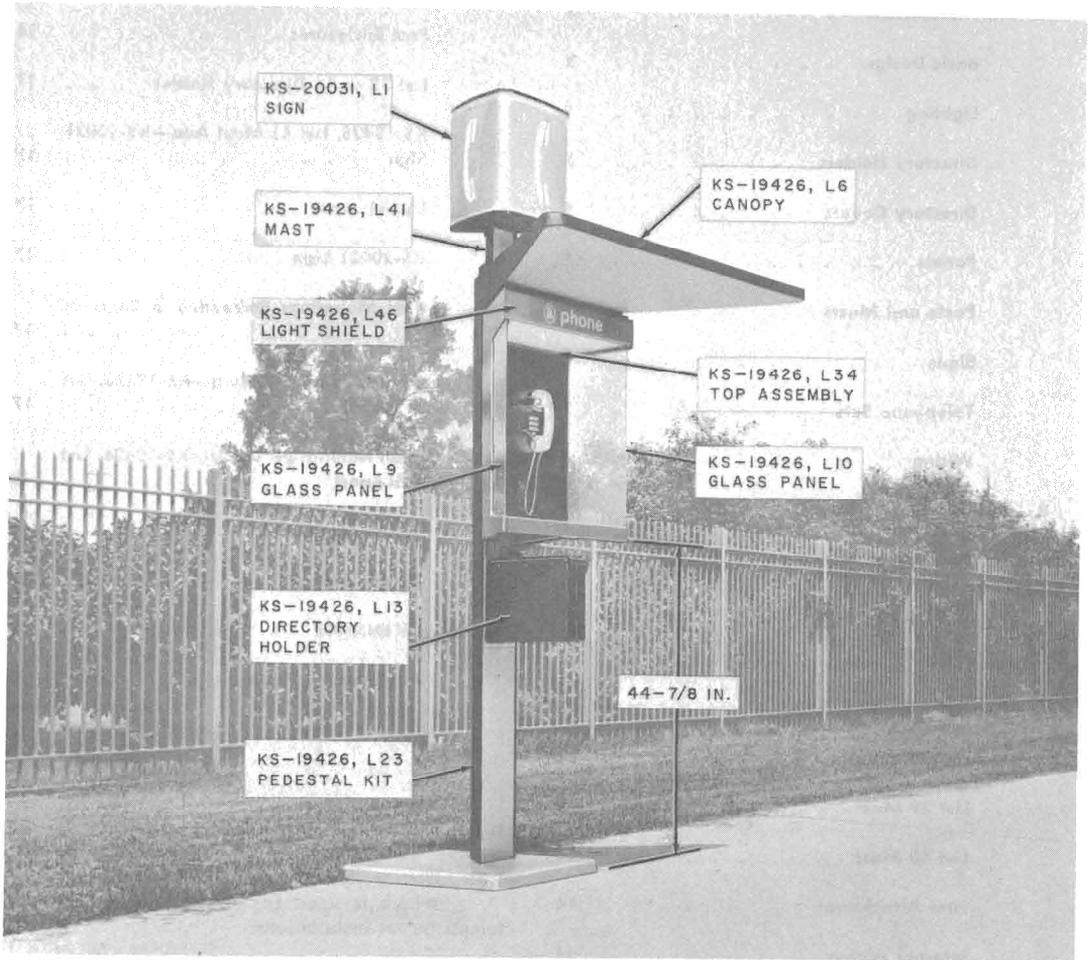
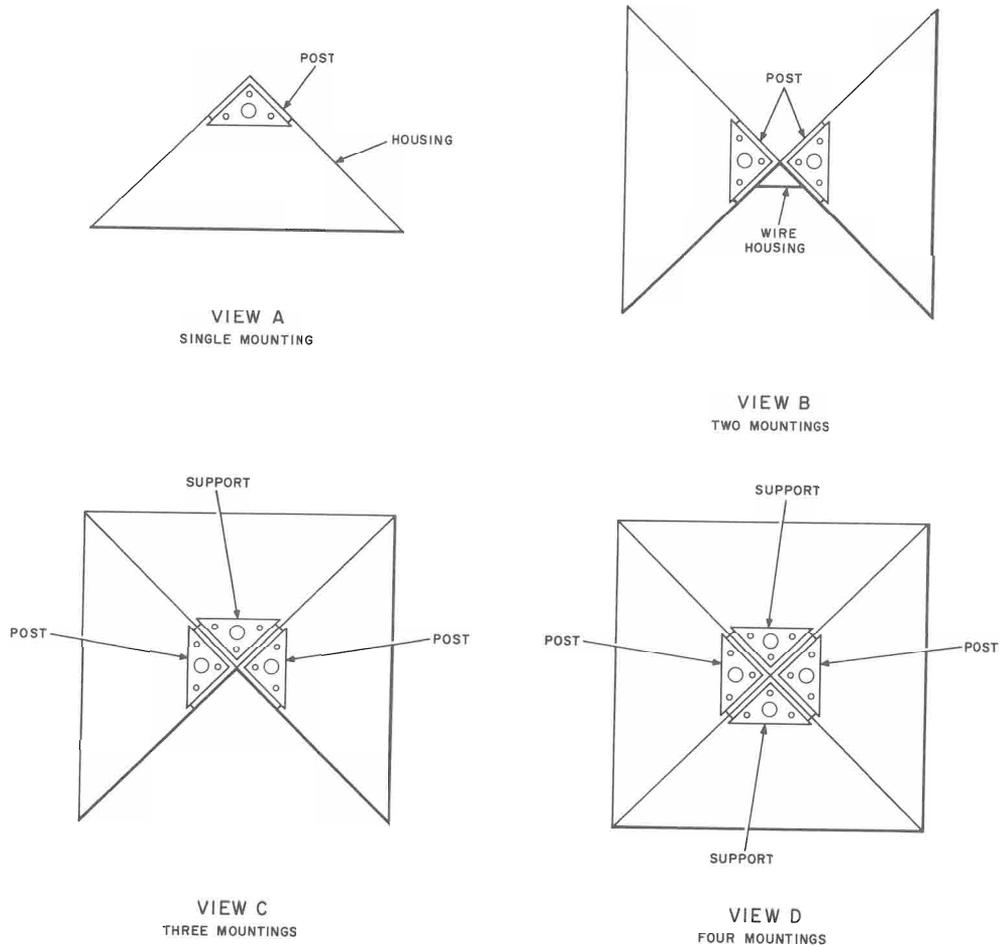

Fig. 1—KS-19426 Mounting for Walk-Up Outdoor Service with List 41 Mast and KS-20031 Illuminated Sign
Fig. 6—Various Arrangements for Post Mountings
2.02 The KS-19426 mounting consists of a 90-degree wedge-shaped housing for post- or wall-mounting of coin telephone sets (Fig. 1 through 5).
2.03 Post mountings (Fig. 1 through 3) may be installed singly or in multiple combinations as shown in Fig. 6.
2.05 A wedge-shaped KS-19426, List 6 canopy (Fig. 1) is available for installation above a single housing to protect the user from the weather. Canopies also may be used in multiple arrangements.
(a) List 13 directory holder (Fig. 1) for outdoor use, walk-up installations.